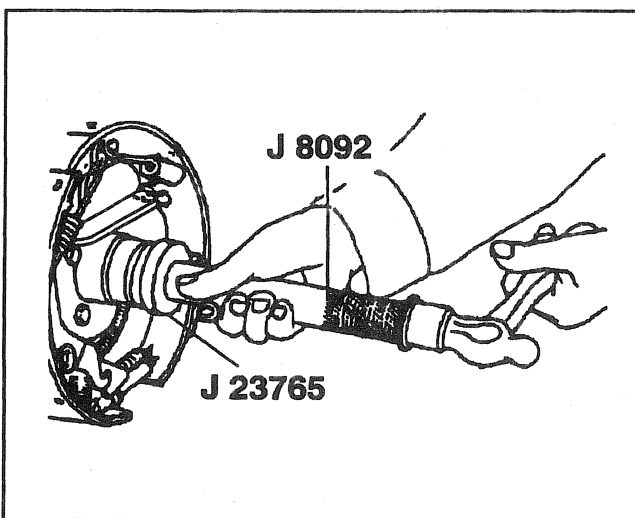

Figure 28—Installing the Axle Bearing
1. Bearing (27) with J 23765 and J 8092 until the tool bottoms against the housing shoulder (Figure 28).